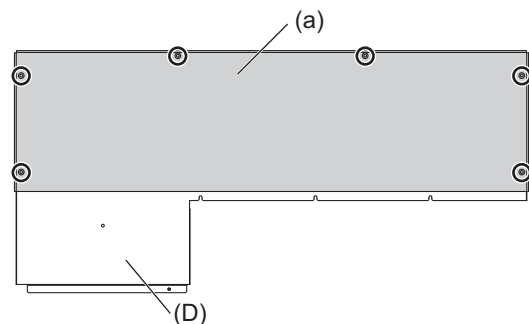

Fig.13
•To avoid dew condensation, use insulated screws in the places marked with circles in Fig.13.